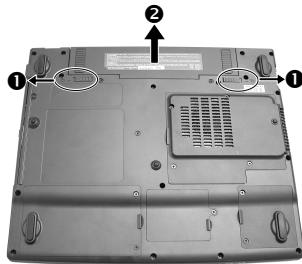

Figure 2-1 Remove the battery pack
2. Slide the two release lever outwards to the “unlock” (↑) position (①), while take the battery pack out of the compartment (②). (Figure 2-1)